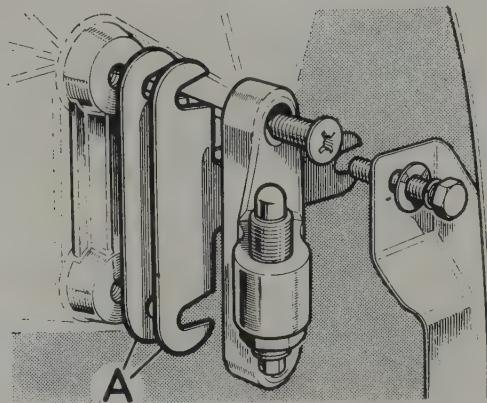

Fig. 12.2. Door hinge adjustment shims (A)
a) Shims may be added or subtracted between the door hinge and the body so as to move the door either into or out of the door aperture (Fig. 12.2).